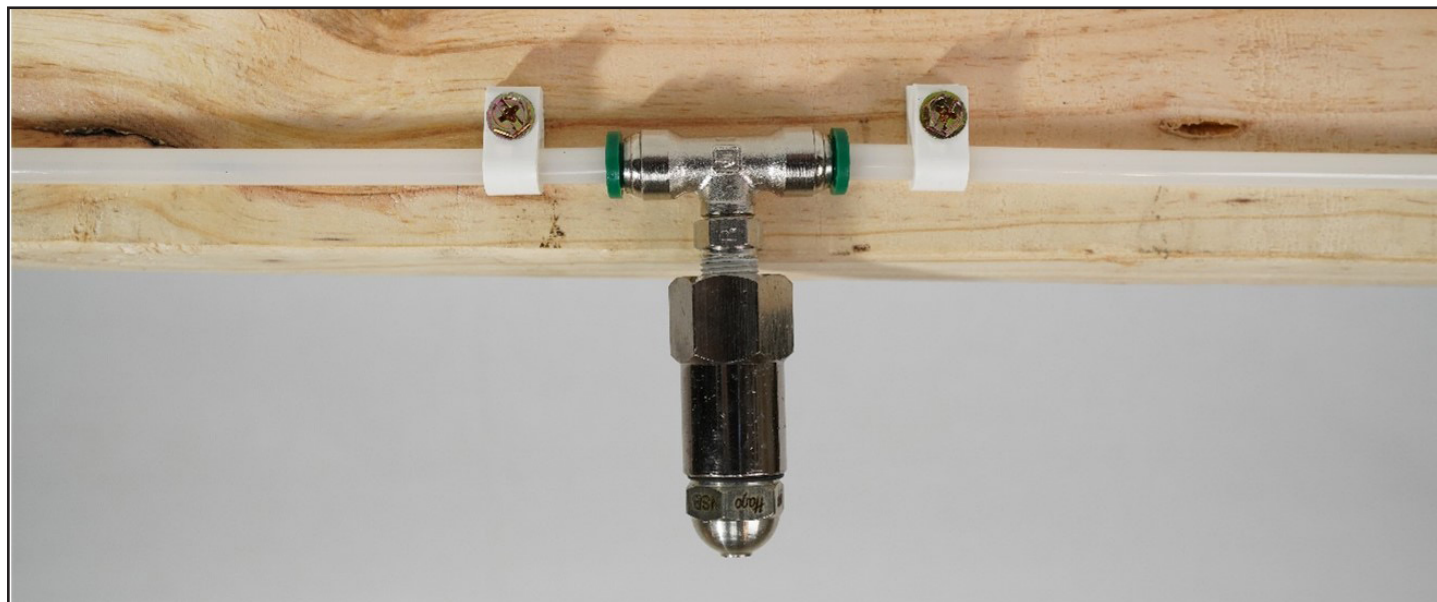

FIGURE 5
3. Push the tubing firmly into the side of the spray nozzle tee (Figure 5). Pull gently to confirm you have secure connections then push back in. If leakage occurs, remove tubing by pushing on the green circle, pushing the tubing in, pulling the tubing out and then releasing the green circle. Trim  $\frac{1}{4}$  inch off the tubing before reinserting.
4. Using the plastic fasteners (Figure 5), or zip ties, install the tubing and spray nozzles above the center of each stall and six (6) feet inside each exterior door. Do not install above fifteen (15) feet from the floor. Use cable wire if necessary. Make sweeping turns with the tubing around corners to **avoid kinking**.